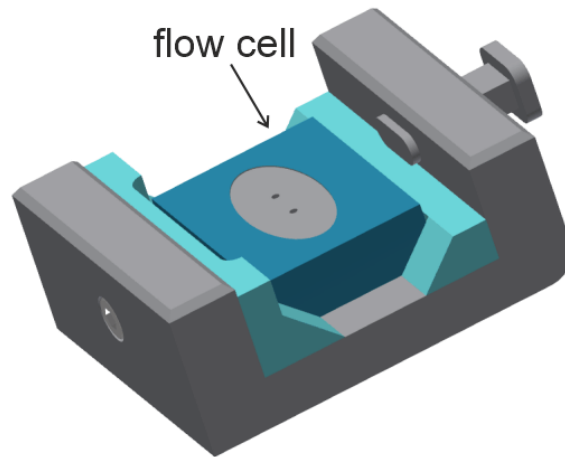

Figure 3. *The magnetic holder for the flow cell.*
2. Clean the flow cell with soft paper or cloth napkins dampened with ethanol. Place the tubes on the inlet and outlet of the flow cell. Fix the flow cell with tubes in the magnetic holder (**Figure 3**).
- 3) Place the magnetic holder *with the flow cell installed* (as shown in **Figure 3**) to the prism *with the sensor chip attached (through the oil viscosity)* and turn the lever on the left side of the Biosensor's optical unit counter-clockwise. *Note: Be sure that the sensor chip encloses the flow cell completely and will not leak.* Due to magnetic forces, the flow cell will be